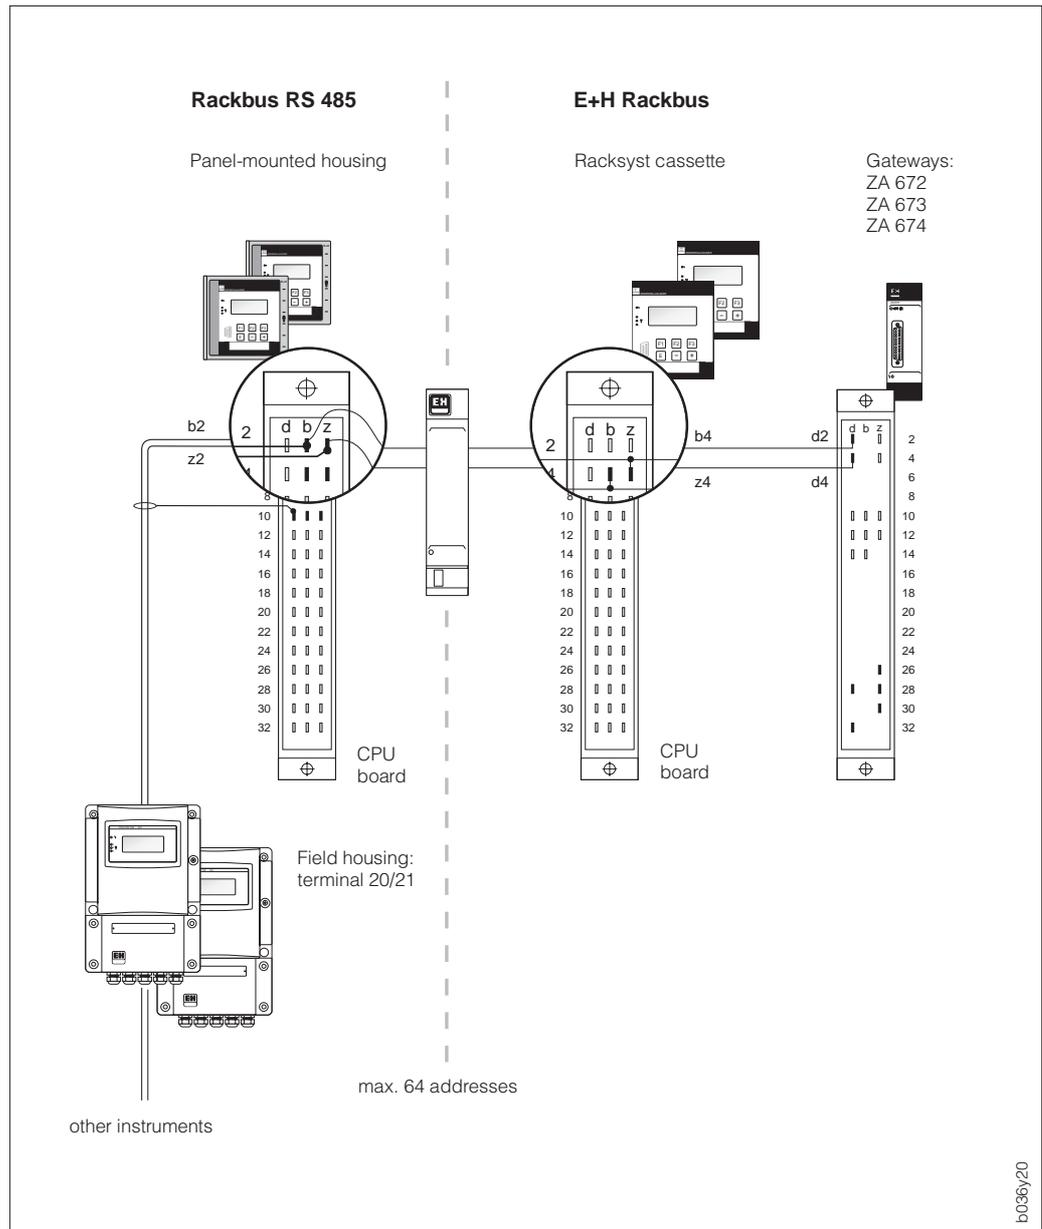

Fig. 10
- Wire up according to Figure 10: